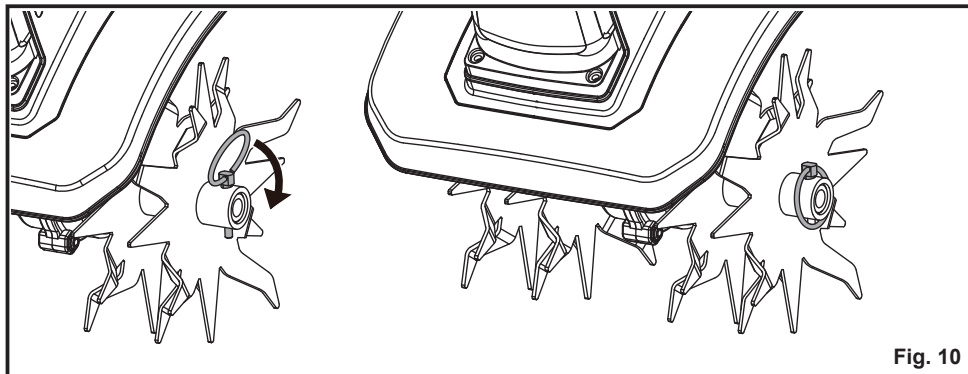

Fig. 10
3. Insert the locking pin into the aligned holes, and rotate the ring down to lock the pin. Check to ensure that the tine blade is fixed (Fig. 10).